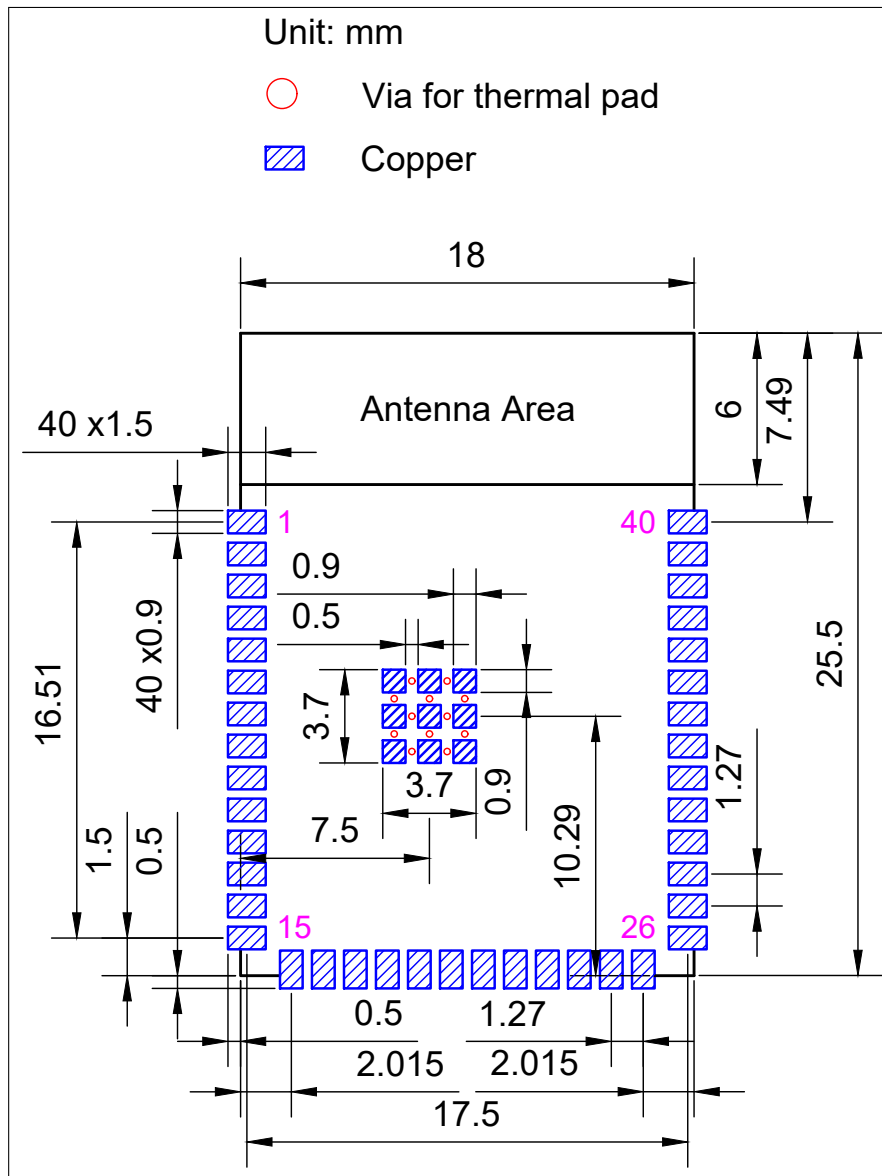
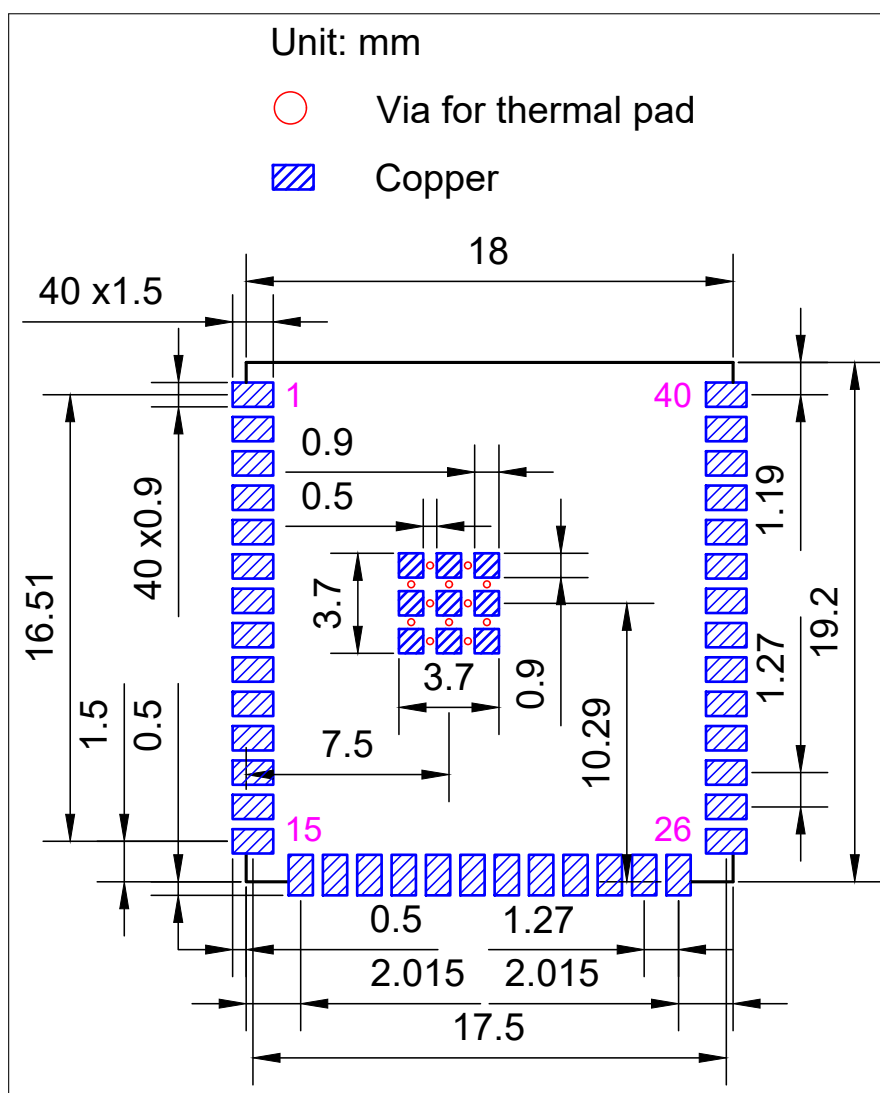

Figure 11: ESP32-S3-WROOM-1 Recommended PCB Land Pattern
Figure 12: ESP32-S3-WROOM-1U Recommended PCB Land Pattern
- Figures for recommended PCB land patterns with all the dimensions needed for PCB design. See Figure 11 *ESP32-S3-WROOM-1 Recommended PCB Land Pattern* and Figure 12 *ESP32-S3-WROOM-1U Recommended PCB Land Pattern*.
- Source files of recommended PCB land patterns to measure dimensions not covered in Figure 11 and Figure 12. You can view the source files for ESP32-S3-WROOM-1 and ESP32-S3-WROOM-1U with Autodesk Viewer.